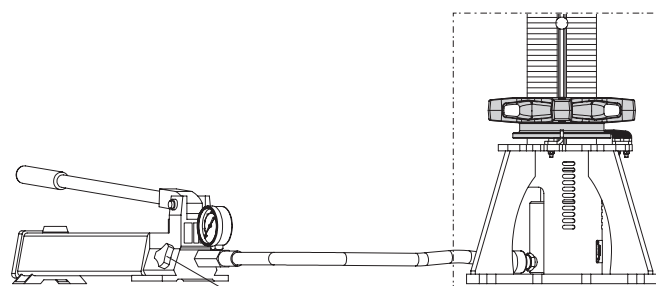

Fig. A5.07
5. Carefully open the pump valve (11.3) on the pump and monitor the load indication on the manometer. Cylinder retracts and is lowered with the adjusting nut and prop by max. 10 mm. (Fig. A5.07 + A5.07a)